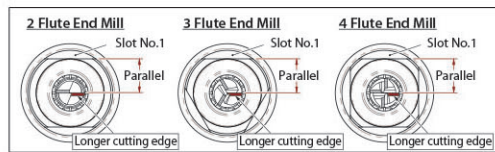

Fig. 2-3
4. Turn the longer cutting edge of end mill to be parallel to the Slot No.1 of the clamping nut. (Fig. 2-3)